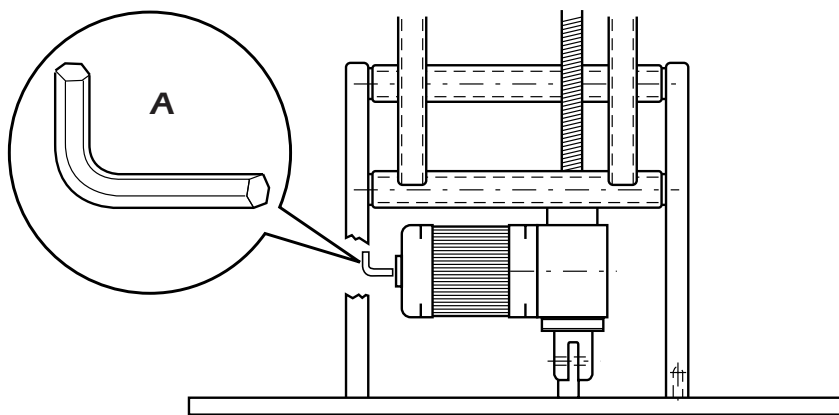

Fig. 1
- 5) If the motor does not work, disconnect the chair from the mains, use a 4- mm "**A**" Allen wrench and introduce it into the drive shaft as indicate in figure 1 . Rotate the key for starting the motor by hand.